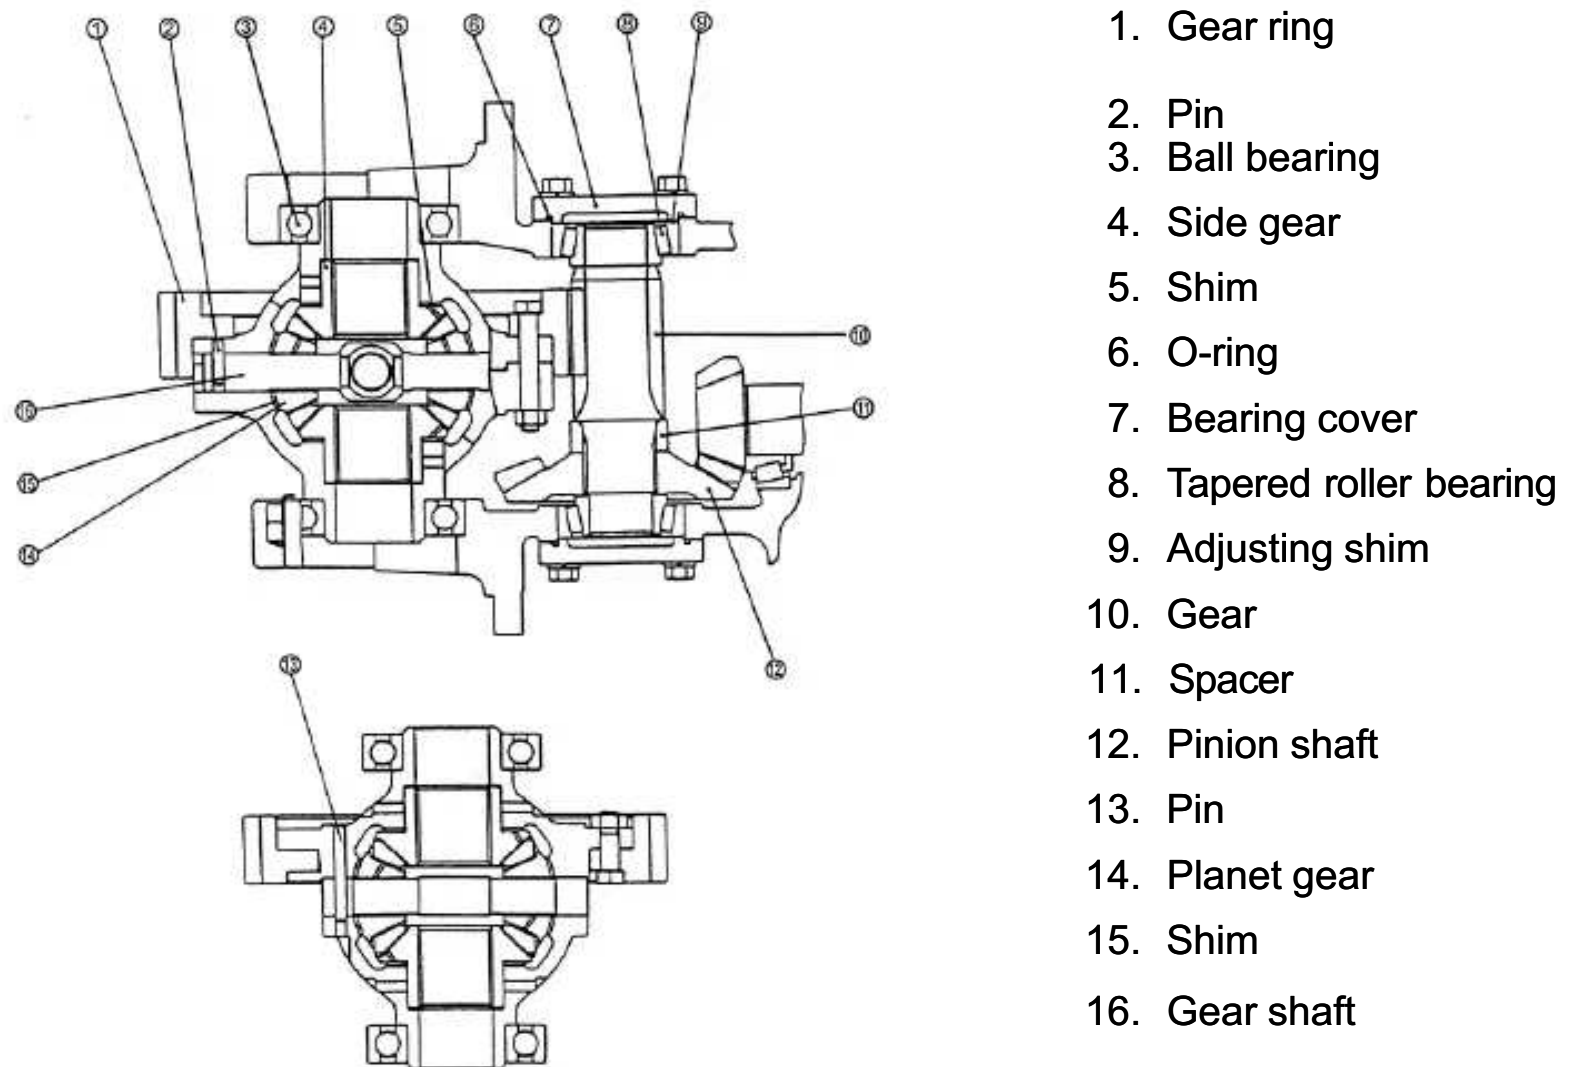

Fig 2.2 Reducer and differential
2.2 Reducer and differential (Fig2.2)